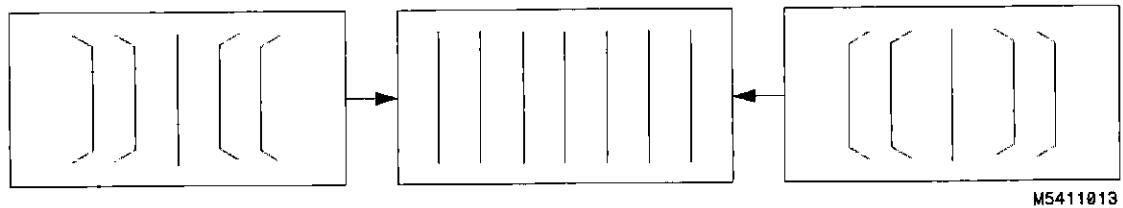

Figure 3-9. PIN PHASE Adjustment.
- 8 Adjust PIN PHASE (RV505) located on the left side PC board to eliminate pin phase distortion in the vertical lines of the cross-hatch pattern as shown in figure 3-9.